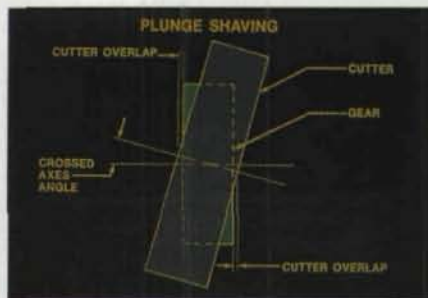

Fig. 5 — Plunge shaving.
**Plunge:** Plunge shaving (Fig. 5) is used in high production operations. In this method, the work gear is fed into the shaving cutter with no table reciprocation.